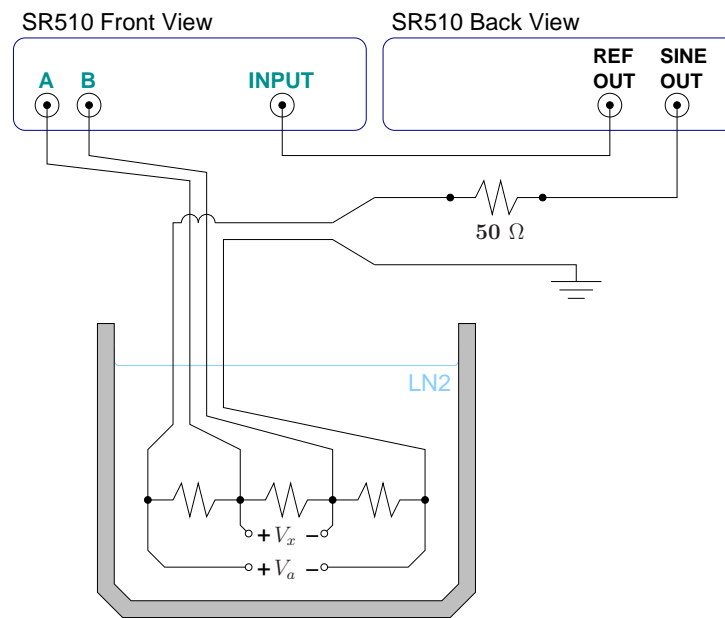

Figure 1: Wiring diagram for a four point probe measurement using a lock-in amplifier.
- Attach leads to one of the samples, load it into the insert, and make a resistance (induced voltage vs. temperature, really) measurement. Detailed instructions are given on the “desktop” of the computer in the lab. A connection diagram is shown below in Figure 1.